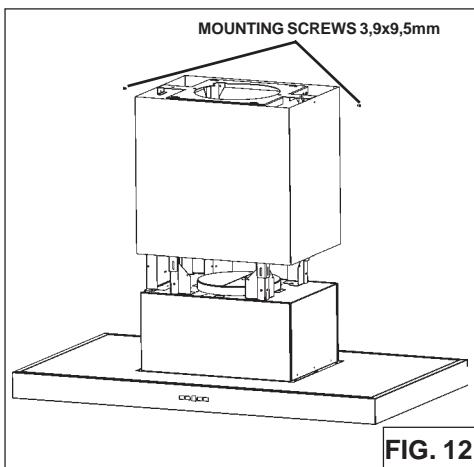

FIG. 12
2. Attached the **upper flue** to the upper support frame with the mounting screws 3,9x9,5mm (Fig.12).